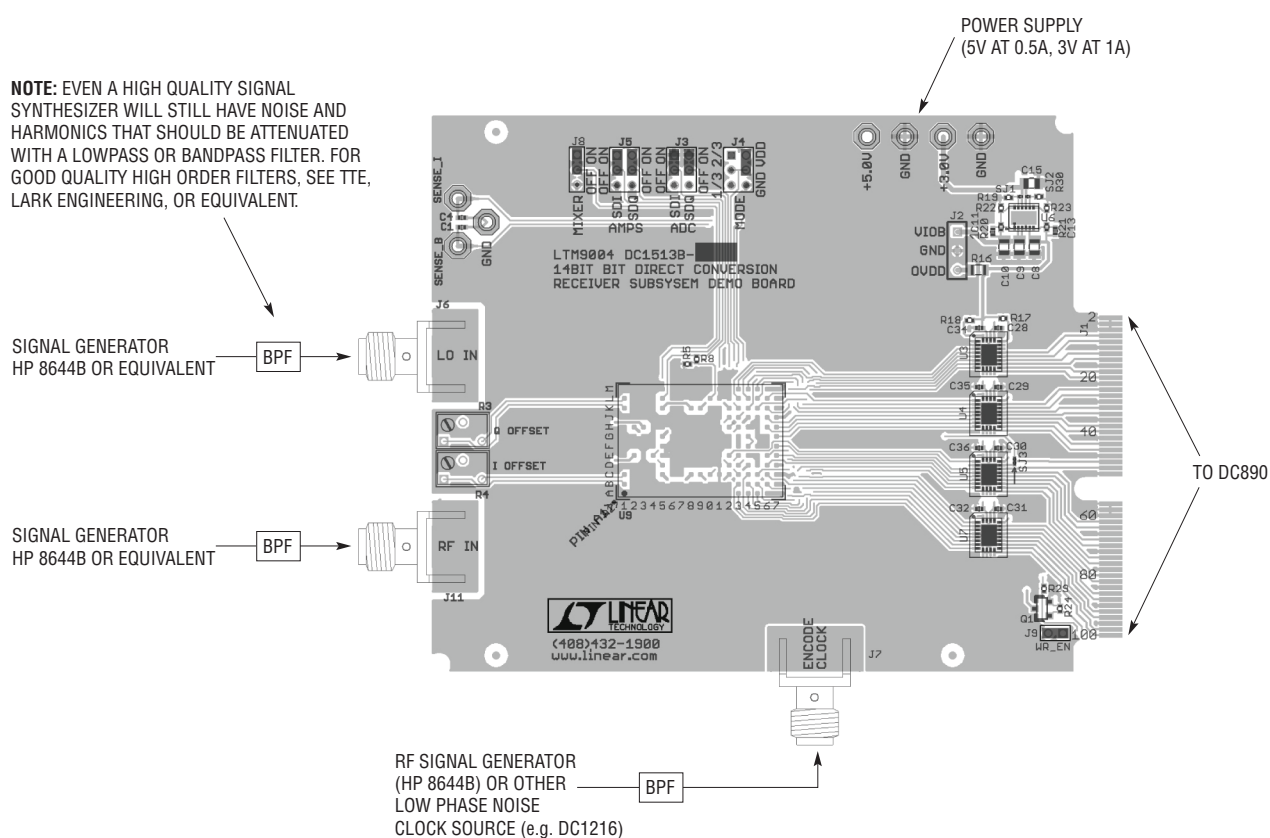

Figure 1. Proper Measurement Equipment Setup
Validating the performance of the LTM9004 is simple with DC1513, and requires only two input sources, a clock source, a computer, and a lab power supply. Refer to Figure 1 for proper board evaluation equipment setup and follow the procedure below:
1. Connect the power supply as shown in Figure 1. There are onboard low noise voltage regulators that provide the two supply voltages for the DC1513. The entire board and all components share a common ground. The power supply should still be a low noise lab power supply capable of supplying at least 0.5A at 5VDC, and 1A at 3VDC.